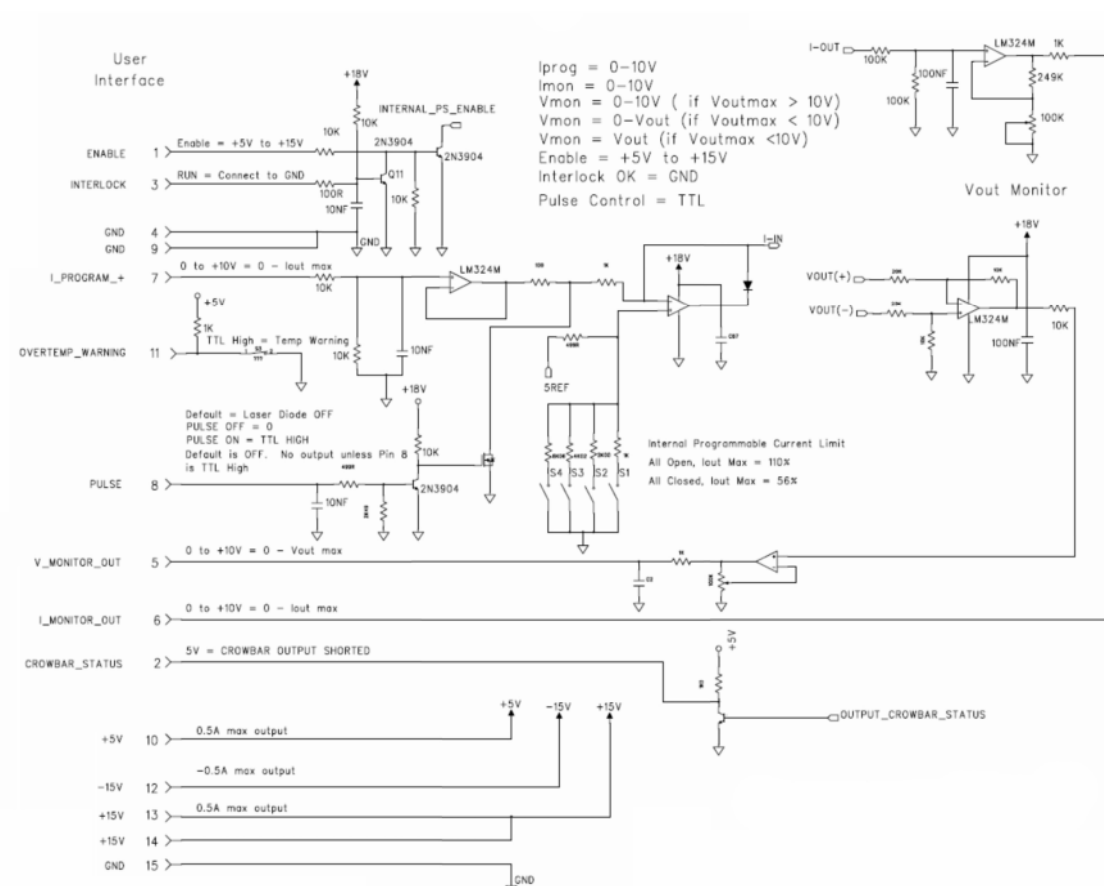

Figure 2: LDY interface
For more detailed interface information please refer to figure 2
2. **INTERFACE CONNECTION:** Connect user system to 15 pin D-sub connector. The user interface is typically designed by the user, Lumina Power can provide any assistance necessary to modify interface program and monitor levels. See Table 1 and Figure 2 for description of LDD / LDDHC interface and the associated simplified interface schematic.